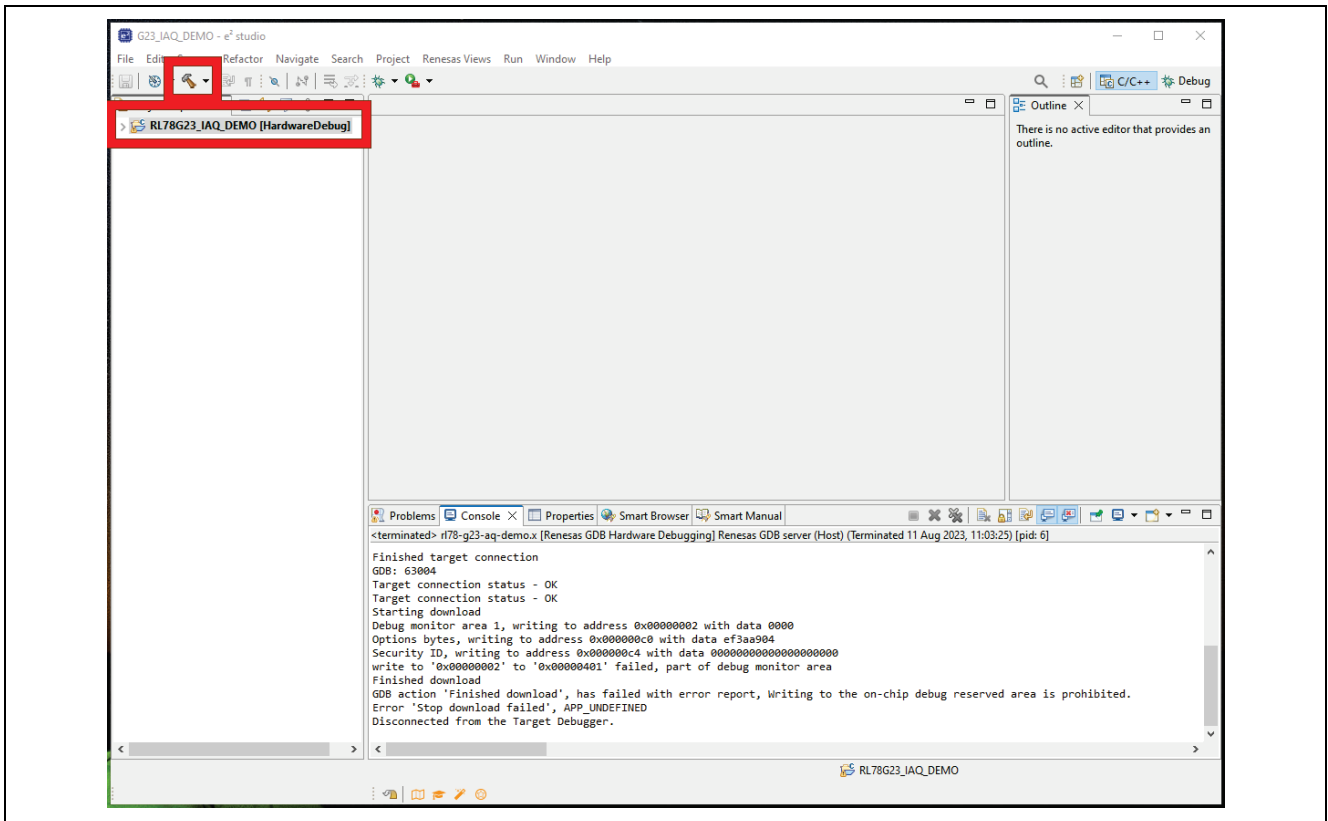

Figure 8. Build Method 3
- **[Left-click]** the project and click  (Figure 8)